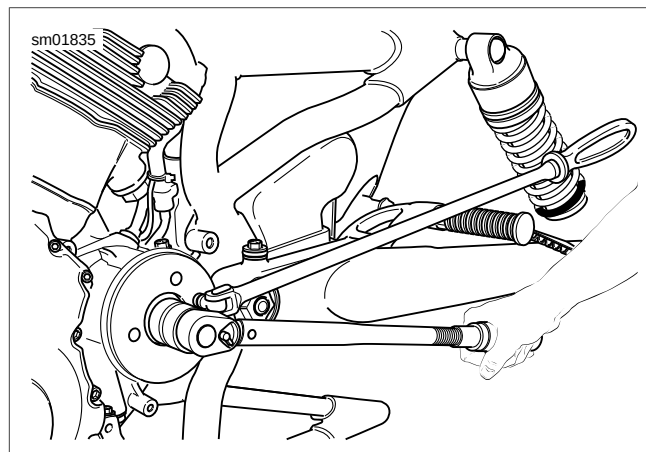

Figure 6-156. Loosen Output Shaft Nut with Final Drive Sprocket Flange Locking Tool (HD-45331-A) (typical)
10. See Figure 6-156. Holding the FINAL DRIVE SPROCKET FLANGE LOCKING TOOL (Part No. HD-45331-A) with a 1/2 in. drive breaker bar in the square hole, loosen and remove the flange nut.